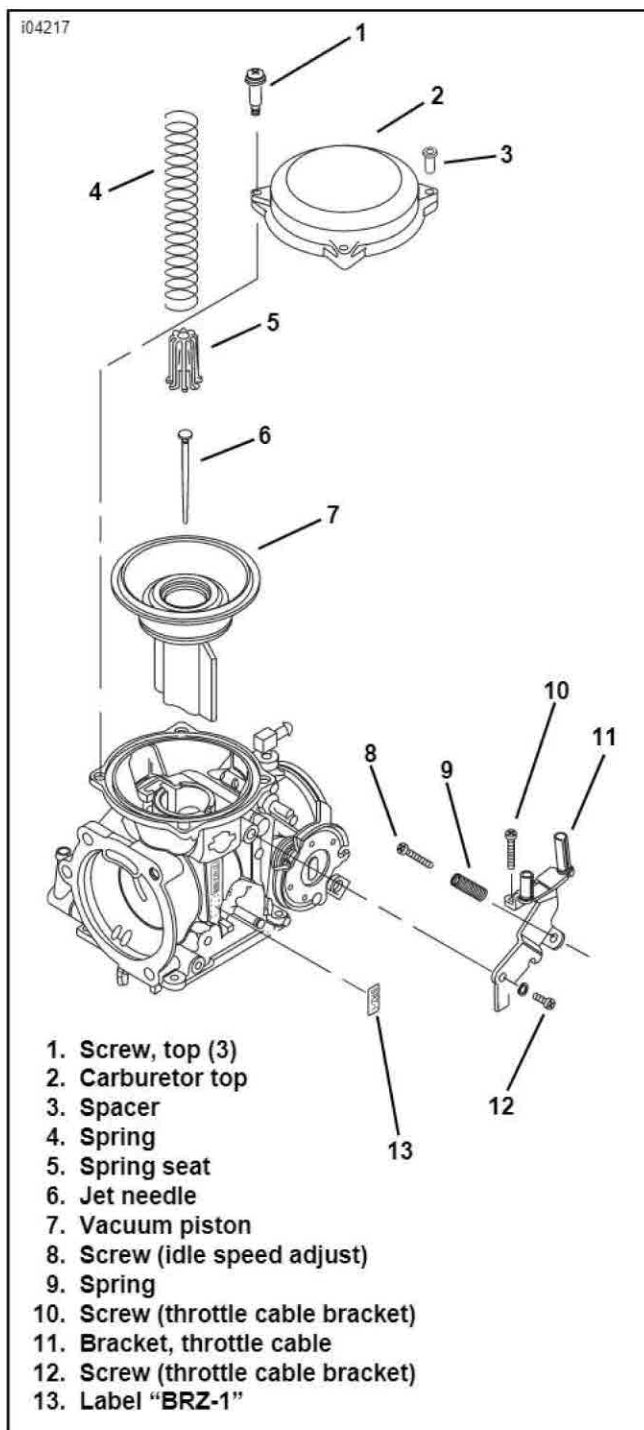

Figure 6. Carburetor
2. See Figure 6. Remove four screws (1 and 10) from carburetor top (2), and remove throttle cable bracket (11) and spacer (3).